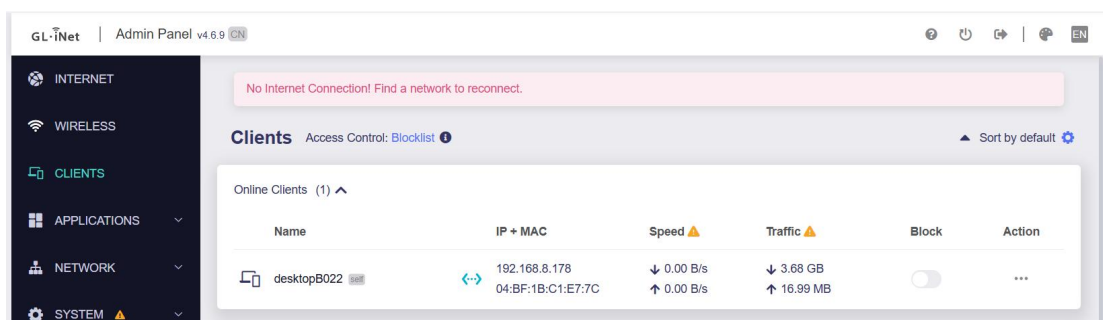

Figure 4-8 Check Connected device in Router Back-end
4. **Check Connected Devices in Router Back-end:** Navigate to the router admin page > Clients, and verify that only one device is shown—the computer that the scanner is connecting, which is shown in Figure 4-8.